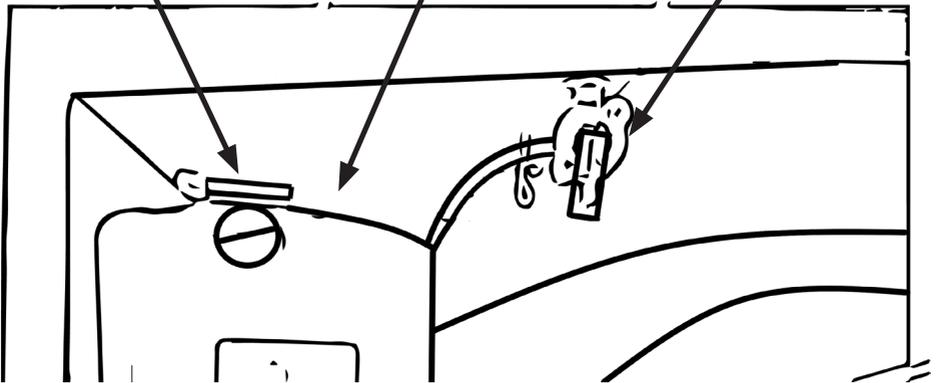

Figure 19
- Open the fuel tap. See also Fig. 19. (Handle on the tap points downwards)